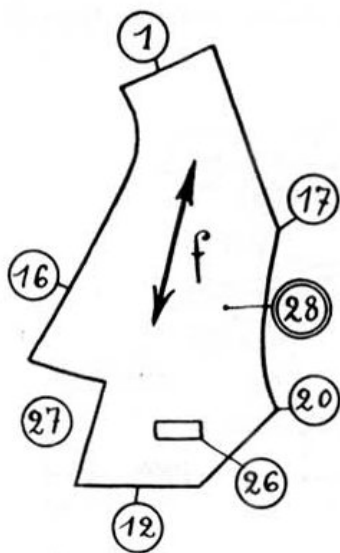

Figure 3.5: Plate inside front of cockpit
Cover that assembly with plate (28), fig. 3.5, made of 3mm plywood, of which side (1) is 150mm long.